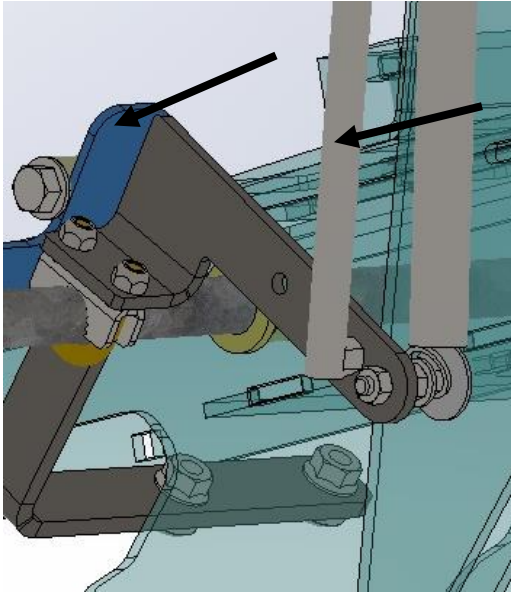

Figure 13
9. Place a 1/8" piece of steel spacer (sickle section, etc.) between the middle paddle activation tab (paddle where the sensor is installed) and the roller. Figure 13
11. Roll the activation tab forward until it touches the roller and tighten the U-bolt nuts (must have 3-4 U-bolt threads showing past the top of each C-lock nuts, Figure 13 **Note: Make certain that all the tabs are set as close to the center of the roller as possible before the clamp nuts are tightened.**